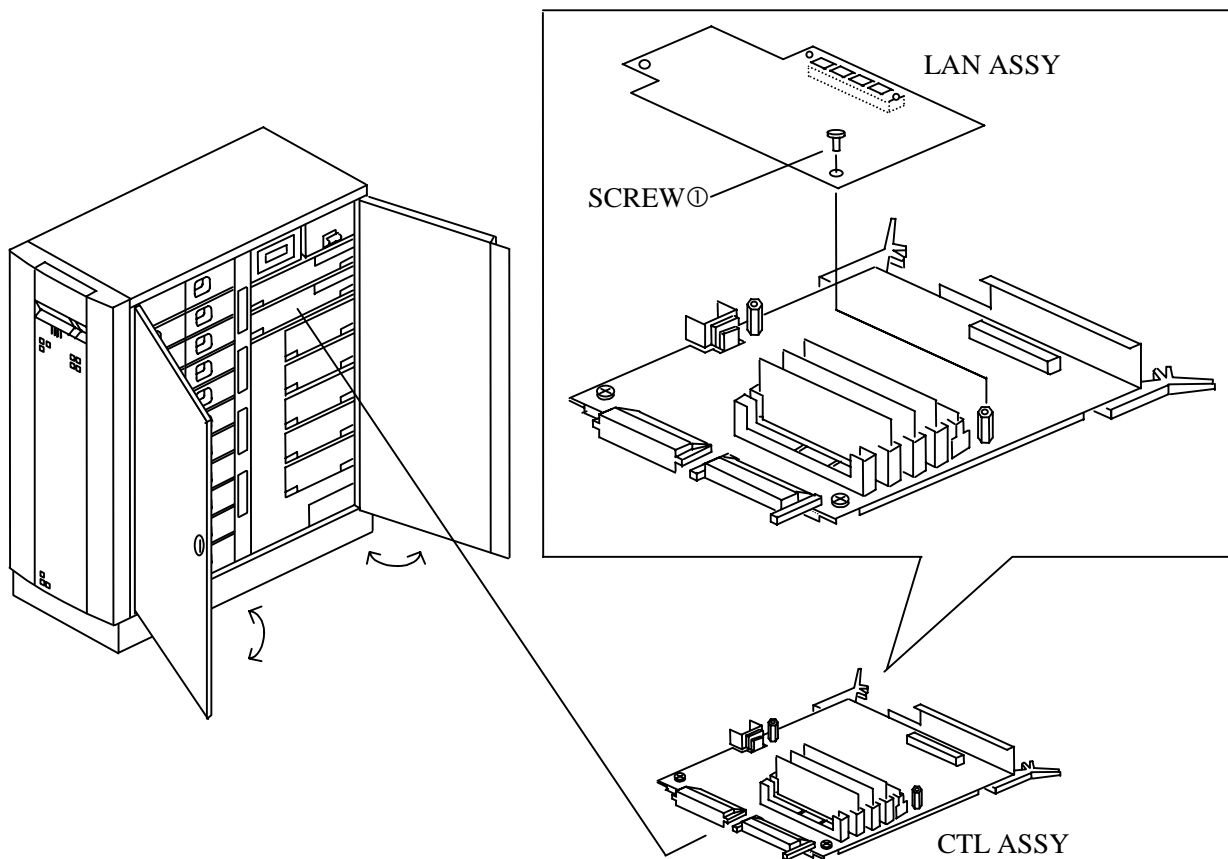

Figure 5.4.4 Installing a LAN ASSY
- (3) Install a LAN ASSY. ( See Figure 5.4.4 in Sheet No. 66.)
- (4) Mount the CTL ASSY.
- (5) Set the DIP Switch as described below.